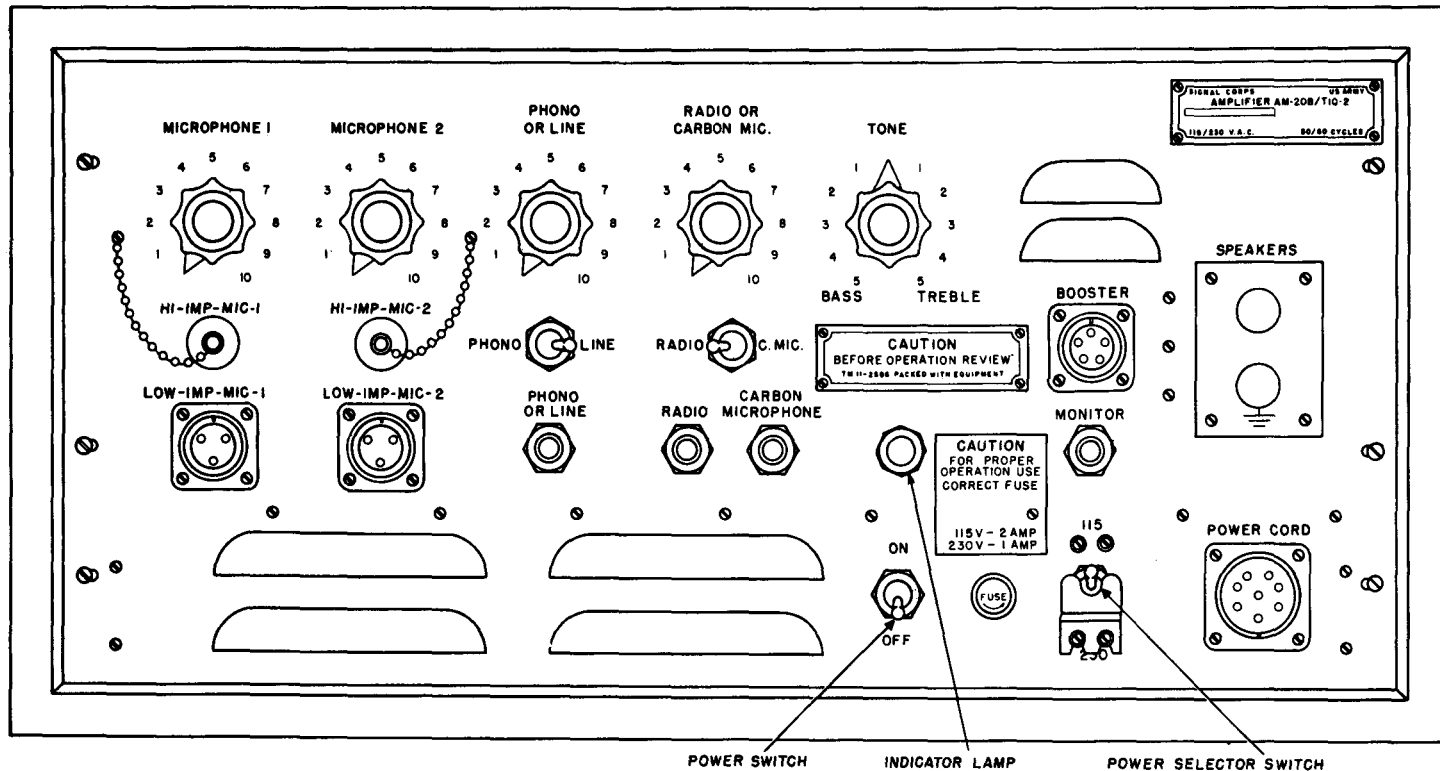

Figure 23. Amplifiers AM-20/TIQ-2, AM-20A/TIQ-2, and AM-20B/TIQ-2, control panel.
a. Start the amplifier by setting the power switch to the ON position. The indicator lamp (fig. 23) should light. Allow a few minutes for the tubes in the amplifier to warm up.
a. General. Use the four knobs marked MICROPHONE 1, MICROPHONE 2, PHONO or LINE, and RADIO OR CARBON MIC. (located at the top of the amplifier panel (figs. 23 and 24)) to make the sound coming from the speakers louder or softer. To make the sound louder, turn the knobs to the right. If the knobs are turned too far to the right, the sound will become a squeal; turn the knobs to the left until the squealing stops. To make the sound softer, turn the knobs to the left. The subparagraphs below describe the use of each knob.
- (1) When the PHONO-LINE switch is in the PHONO position and the cord that is plugged into the PHONO OR LINE jack comes from the turntable.
- (2) When the PHONO-LINE switch is in the LINE position and the cord that is plugged into the PHONO OR LINE jack comes from a special telephone line or when a booster amplifier or low impedance phonograph is being used.
Use the knob on the amplifier panel marked TONE (figs. 23 and 24) to make the voice or music sound deeper or higher. To make it sound deeper, turn the knob to the left in the direction of the position marked BASS. To make it sound higher, turn the knob to the right in the direction of the position marked TREBLE. There are five marks on each side. Turn the knob one mark at a time until the best tone is heard coming from the speakers.